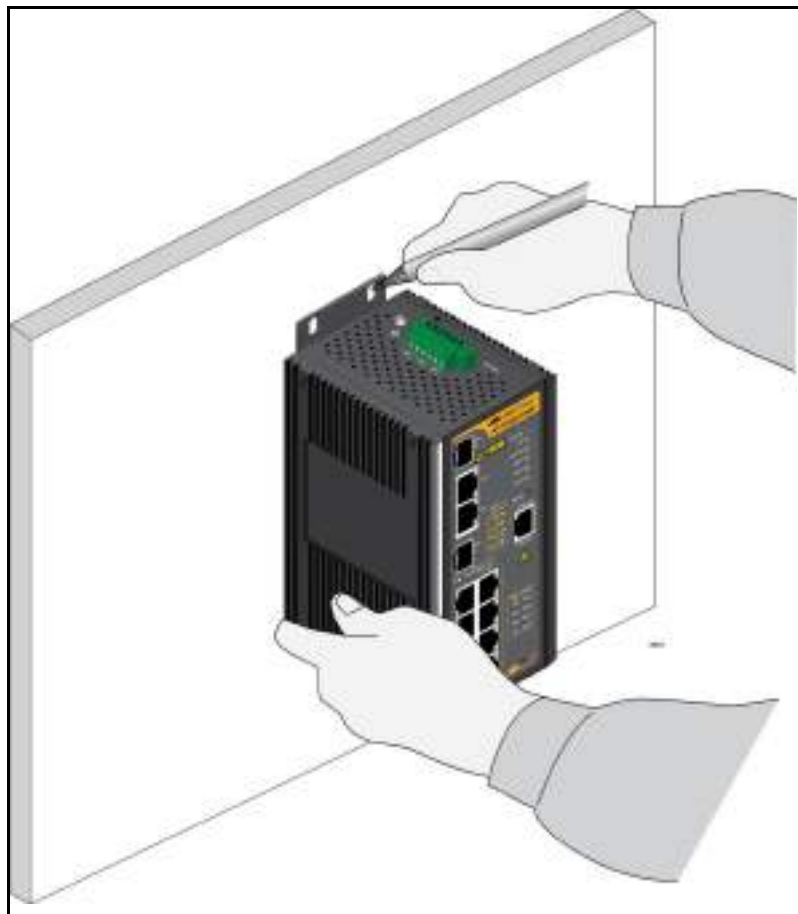

Figure 26. Mark Wall Bracket Hole Locations
4. Hold the switch on the concrete or masonry wall or industrial panel at the selected location for the device while you use a pencil or pen to mark the locations of the four screw holes in the two wall brackets. Refer to Figure 26.
- ❑ The switch must be oriented as shown in Figure 26. You may not install the switch horizontally or upside-down.